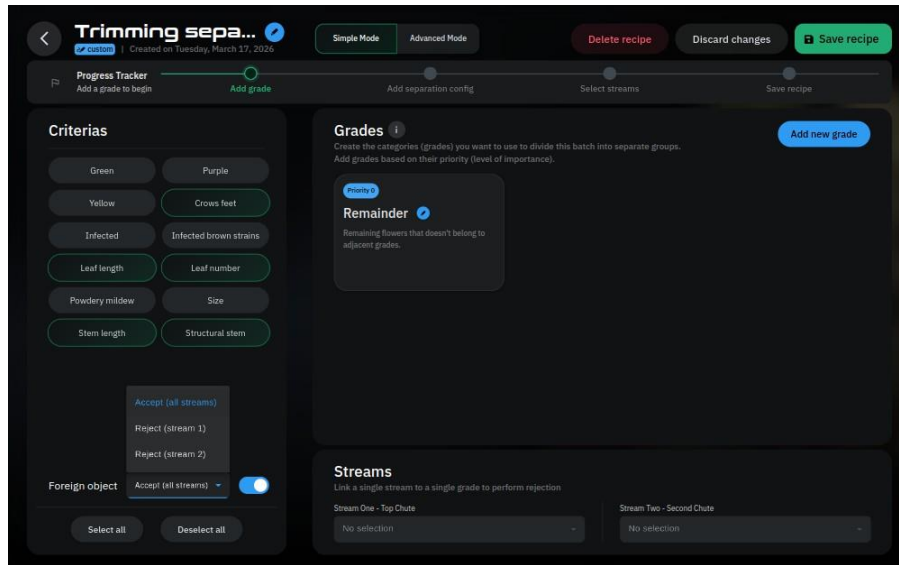

Figure 4.8: Recipe customization (unlocked) foreign object configuration shown at bottom
1. **Criteria List:** Located on the left side. Each criterion can be selected or unselected (Figure 4.8).
Some touchable function buttons on the recipe main page are (see figure 4.8):